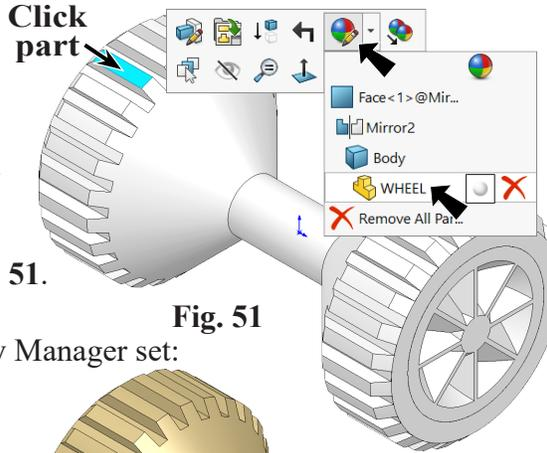

Fig. 51
- Step 1. Click the part to select part, click Appearances Callout on the context toolbar and click WHEEL, Fig. 51.